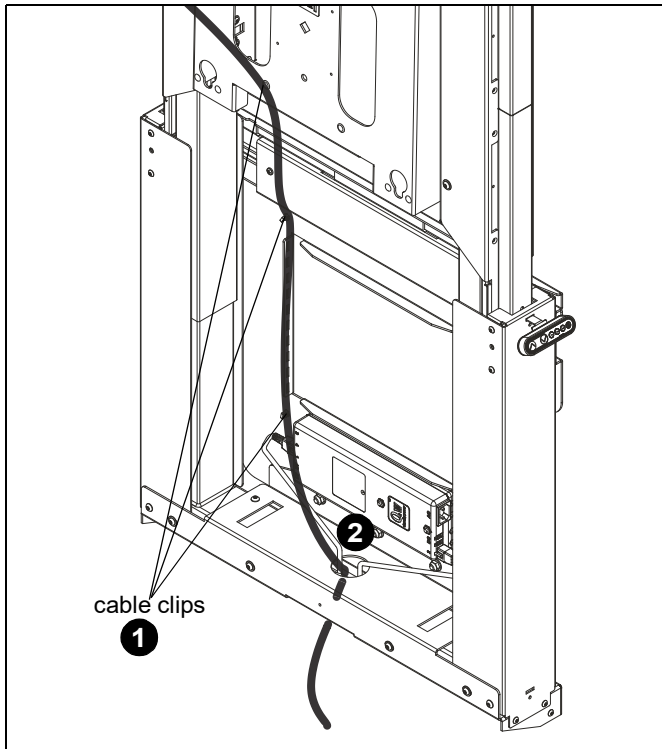
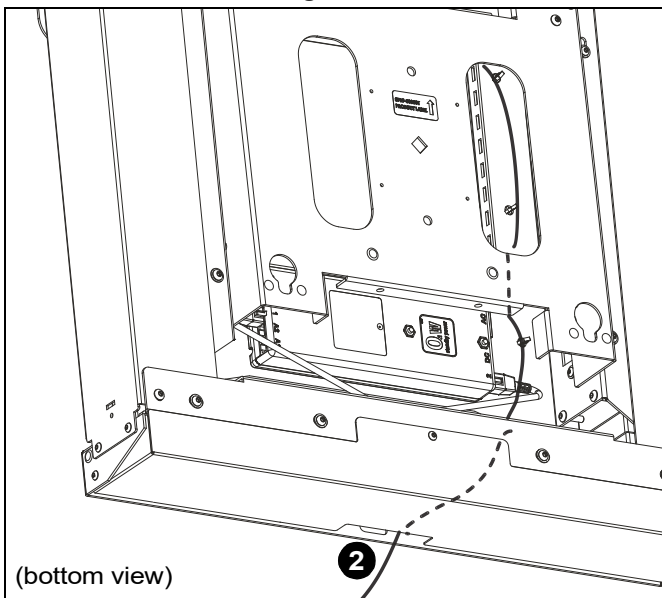

Figure 41
Figure 42
1. Use cable clips and/or cable ties (C) to route cables as desired. (See Figure 41)
2. Route cables through opening on bottom cover if a power box is not installed behind the mount. (See Figure 41) and (See Figure 42)